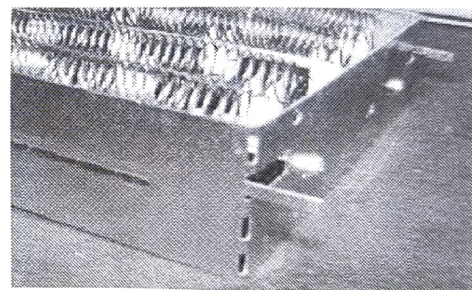

Fig. 1 - Alignment tabs.
4. Before inserting the heater into the blower section, bend the heater alignment tabs 90 degrees out. These tabs are located on the endcap section of the heater and will slide into the upper alignment holes in the back of the air handler box (see fig. 1 & 2).